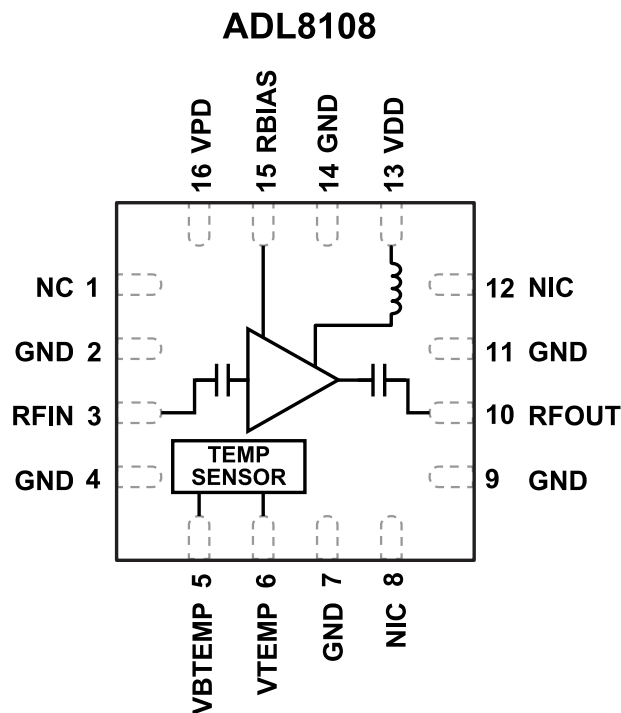

Figure 1. Functional Block Diagram
- ▶ Noise figure: 1 dB typical from 3 GHz to 6 GHz